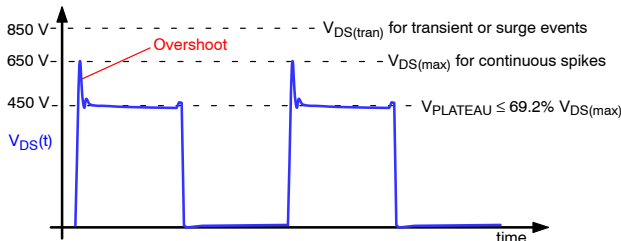

Figure 39. Drain-to-Source Voltage Definition
The NCP58920 has been designed to offer design margin to withstand transient and continuous voltage levels that are typically seen in single switch topologies, such as quasi-resonant (QR) flyback applications. The various voltage levels and recommended margins in a typical QR flyback converter is described using Figure 39. $V_{DS(TRAN)}$ rating is the voltage level of events that occur on a non-repetitive basis (occasional event), such as line surge, lightning strikes, start-up, over-current, short-circuit, load transient, and output voltage transition. $V_{DS(TRAN)} = 850\text{ V}$ ensures device robustness and derating is not required for non-repetitive events when the transient time duration is $<100\text{ }\mu\text{s}$. After the device is turned off, the energy stored in parasitic inductances (stray and leakage inductance of transformer and PCB layout) creates overshoot voltage stress $V_{DS}(t)$ that is applied to Drain-Source terminals. It is necessary to design a clamp circuit that limits V_{DS} continuous overshoot to $V_{DS(max)}$ 650 V level under the worst case steady-state operating conditions. After consuming energy from parasitic inductances, the device V_{DS} will drop to the level given by sum of the bus voltage and the reflected output voltage which is shown in Figure 39 as $V_{PLATEAU}$. It is recommended to design the system in such way that $V_{PLATEAU}$ level is maximally 69% of $V_{DS(max)} = 650\text{ V}$, thus $V_{PLATEAU} \leq 450\text{ V}$. The recommended DC Bus voltage, $V_{PLATEAU}$ (in Figure 39) is not guaranteed spec.